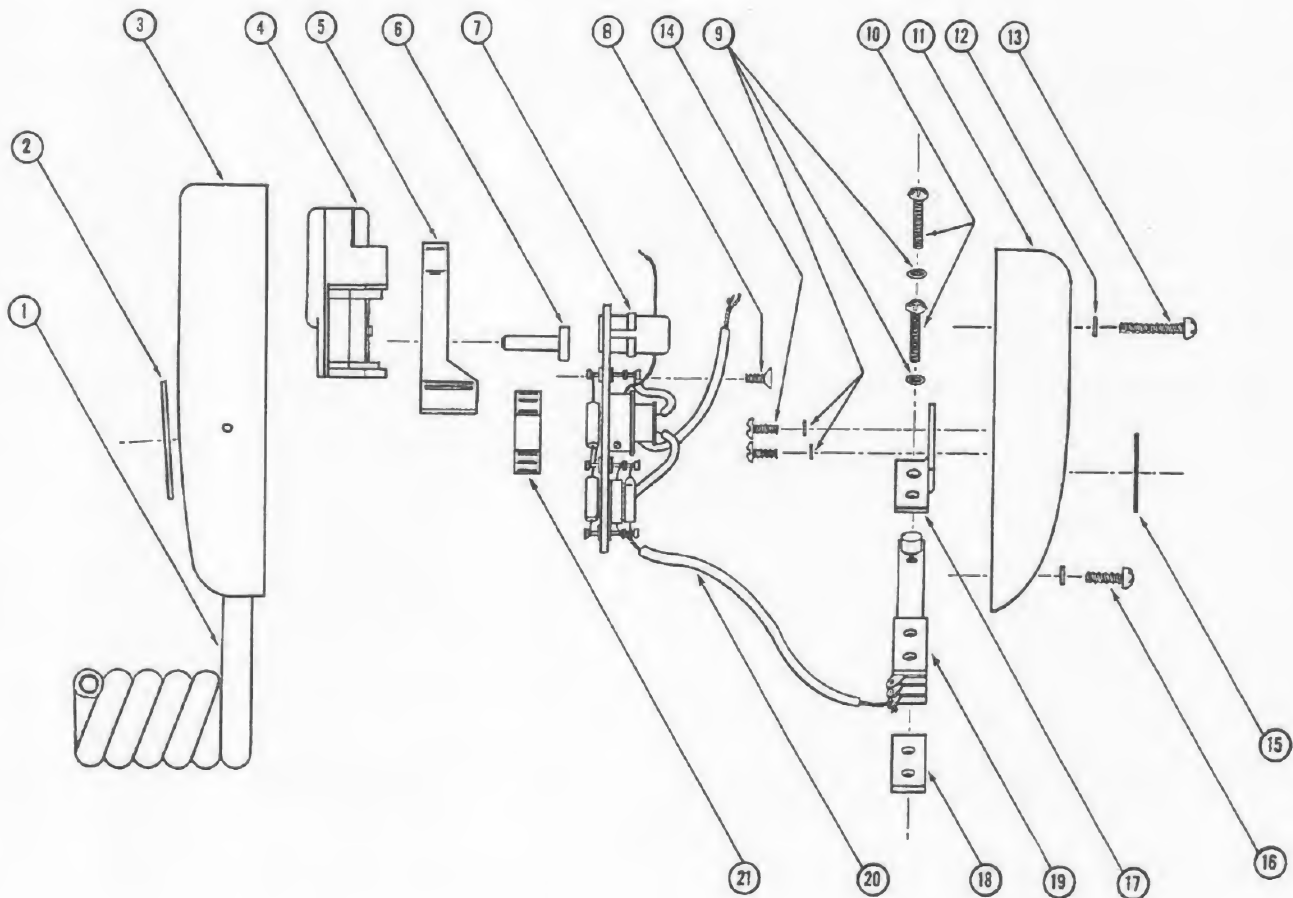

Figure 8 - Model 603TR Assembly
2. **Disassembly.** (See Figure 8)